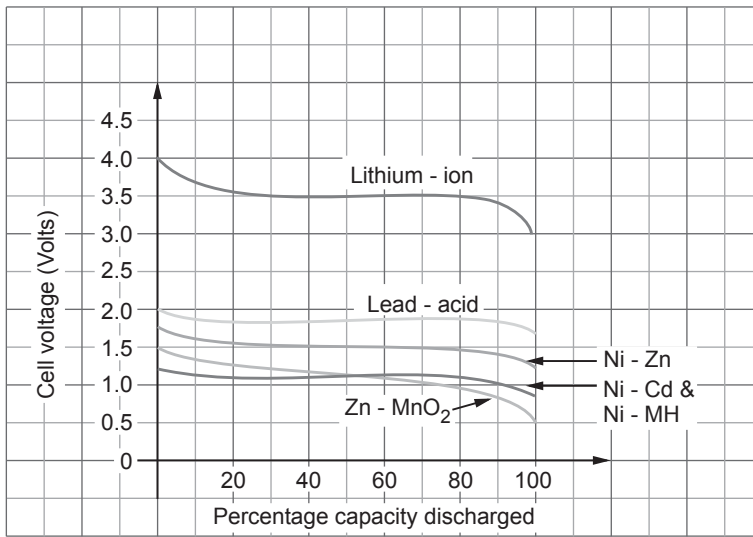

Fig. 6.11.1 Various types of batteries and their voltages with discharged
- ix) Battery operating voltage is decided by electrode materials. Fig. 6.11.1 shows the different types of batteries and their voltages with respect to percentage of capacity discharge. (See Fig. 6.11.1 on next page.)